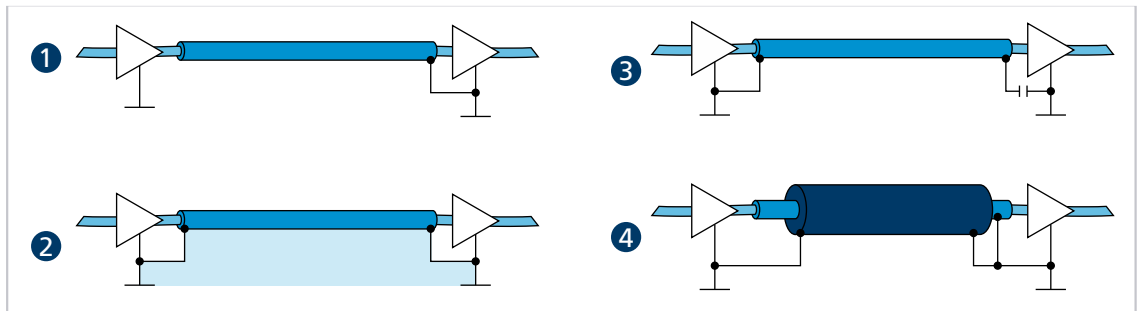

Fig. 33: Various possibilities for the shield connection
- ▶ Lay the motor phases in a shield, separate from the sensor or encoder signals, and connect on at least the motor side (see 1 or 2 in Fig. 33).
The sensor signals can optionally be laid with the motor phases in a shared cable/insulation hose using another outer braided shield. This outer braided shield must be connected at both ends (e.g., 4 in Fig. 33). A solution such as 2 in Fig. 33 is not functional in every case for this configuration. If this is not possible by means of a ground offset, establish the RF connection via specially suited capacitors (e.g., safety capacitors such as Y1/Y2/X1/X2, see 3 in Fig. 33). In this case, do not connect the shield multiple times except at the motor connection and controller side.